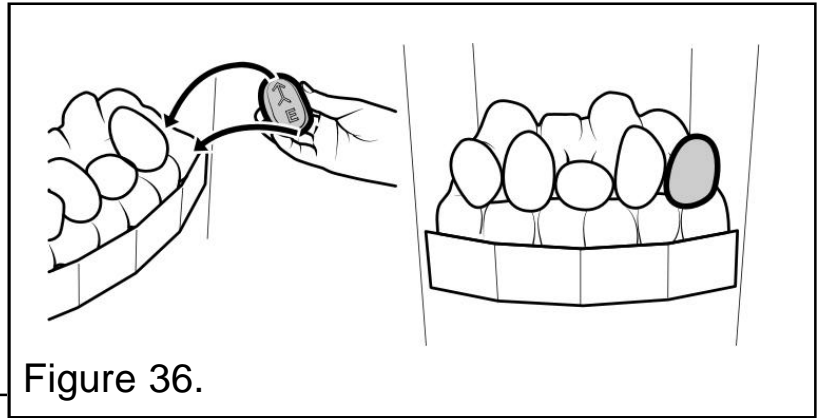

Figure 36.
7. Hold pebble 'E' upright with the arrow pointing to the top. Place pebble 'E' on top of the base pebble (See figure 36).